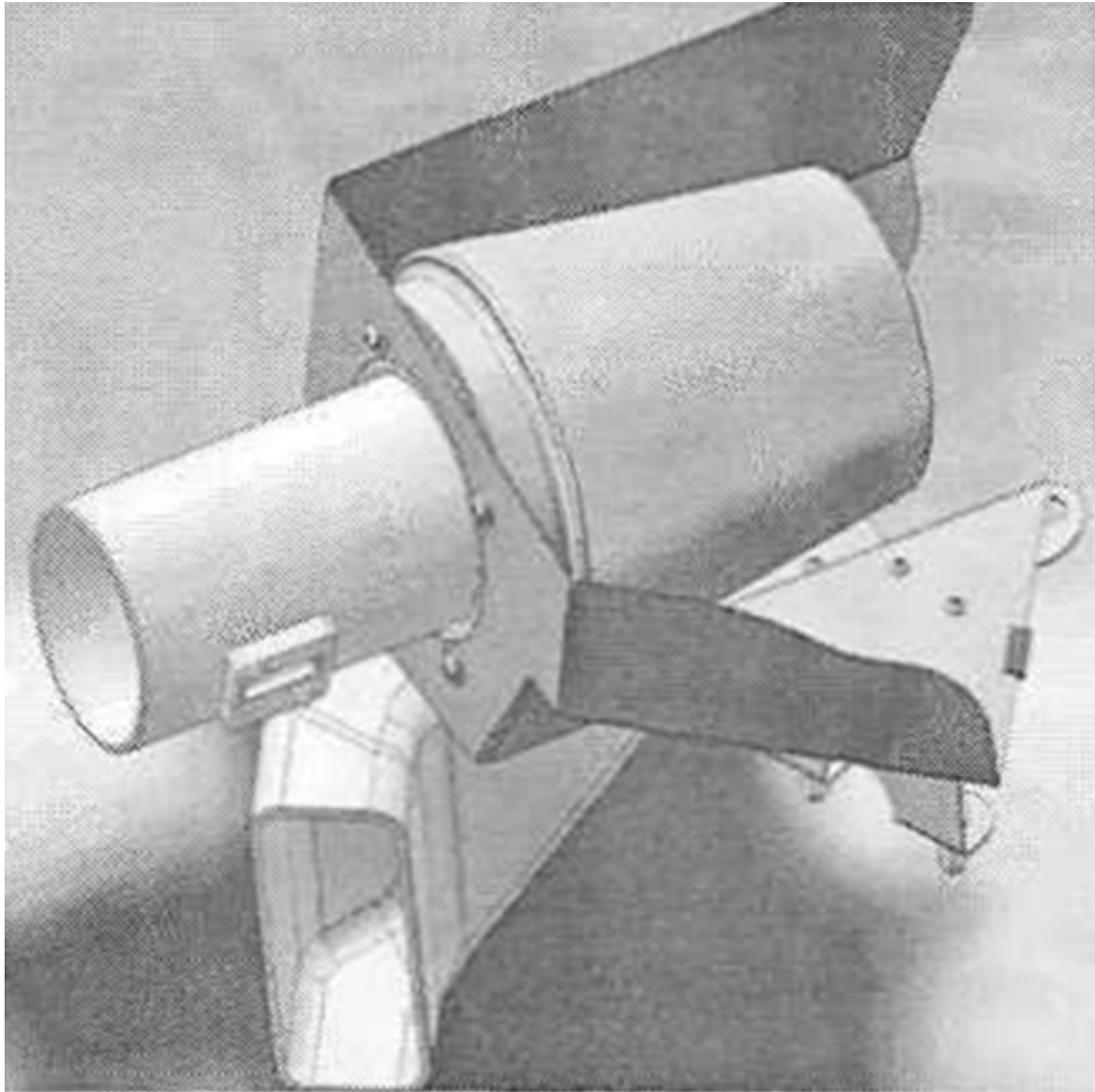

Figure 9
2. Insert the mass air flow sensor pipe with built in velocity stack to the shield by passing the tube through the hole in the shield. Bolt it together with the provided *1/10* x 3/8" button head Allen screws and 5/16" flat washers. Make sure the Pipe is oriented so that the mass air flow sensor faces the same direction towards the front of the car as seen in Figure 9.